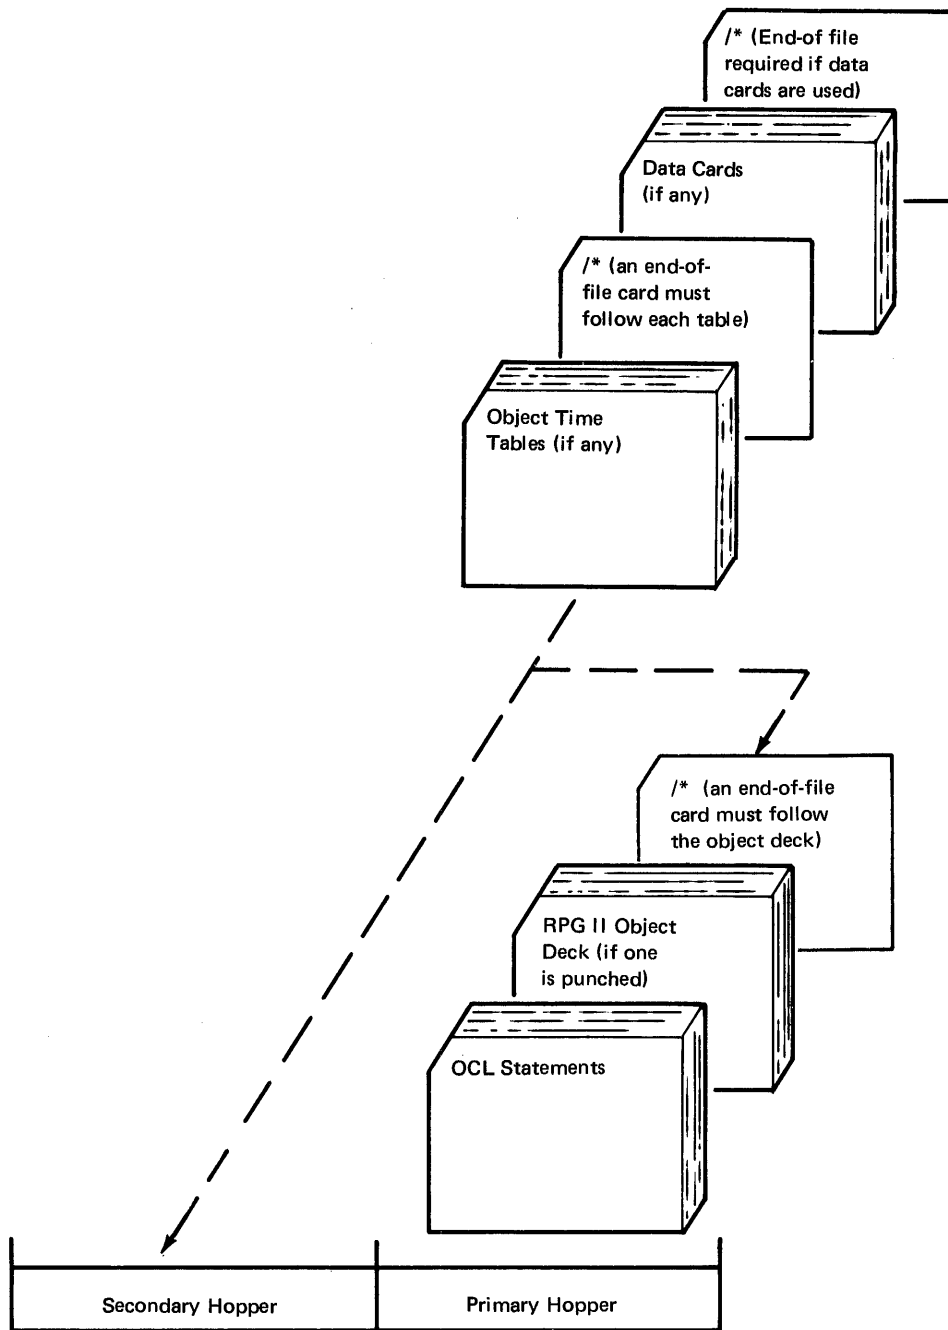

Figure 23. Input for RPG II Object Program Execution.
4. If required, place object tables and data cards (Figure 23) in the hopper designated on program run sheet.